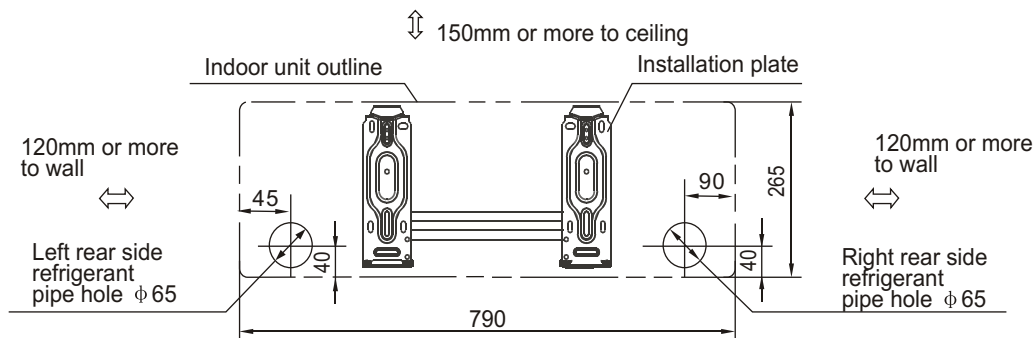

Fig.5
1. Determine hole positions according to the diagram detailed in Fig.5. Drill one (1) hole ($\phi 65$ mm) slanting slightly to outdoor side.